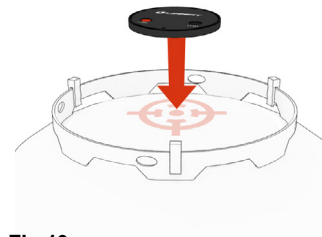

Fig.13
4. Place the LP Sensor on bottom of the LP tank in the center (Fig.13).